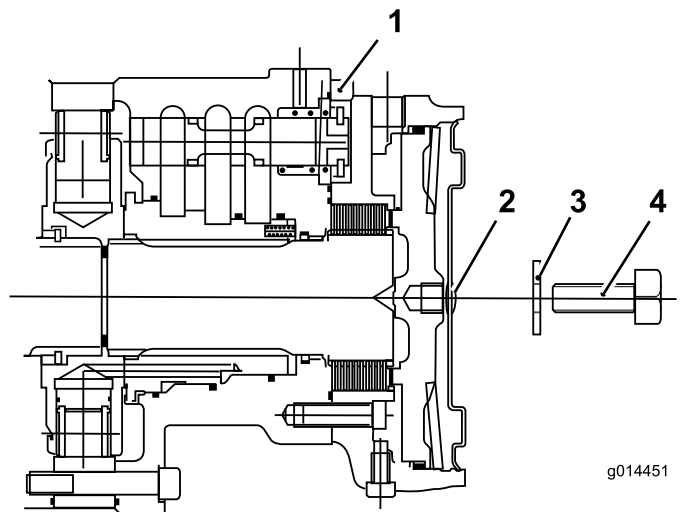

**Figure 44**
6. At the right, front wheel motor brake assembly remove the hex plug (Figure 44).